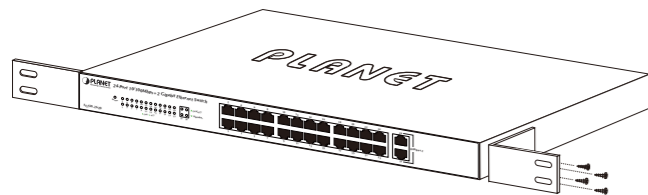

Figure3: Attach the brackets to the Fast Ethernet Switch
Step 2: Attach a rack-mount bracket to each side of the Switch with supplied screws attached to the package. Figure 3 shows how to attach brackets to one side of the Fast Ethernet Switch.